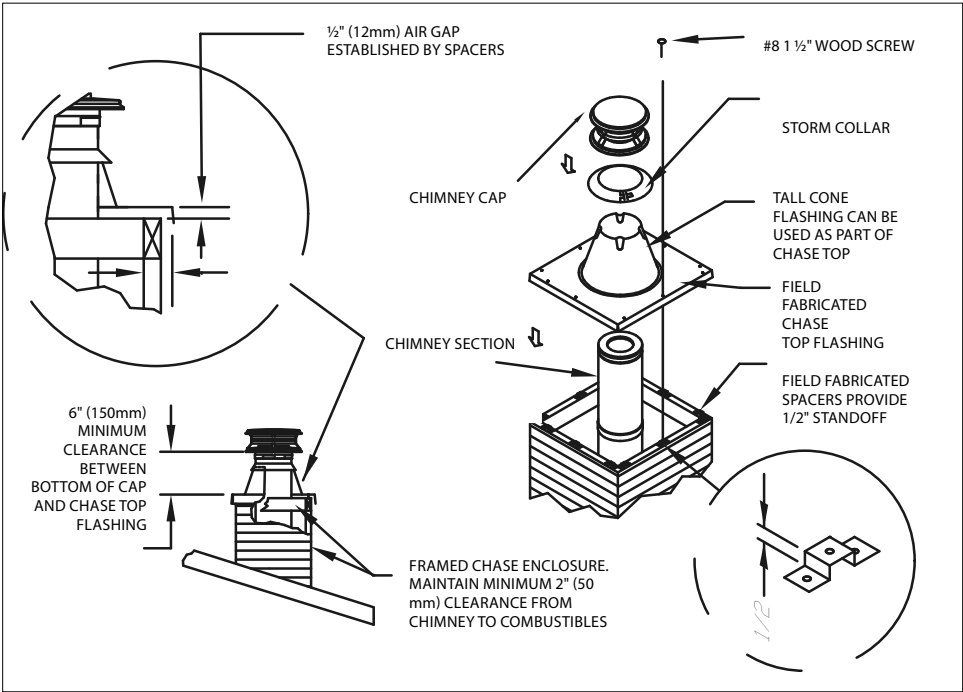

Figure 27
9. Flashing: It is recommended that a Tee Supported Chimney be enclosed in a chase. If a chase enclosure has been constructed, you can either use a standard flat-roof flashing, or use a field-fabricated flat chase top flashing. **Important:** The chase must be ventilated. If you use a field-fabricated chase top flashing, you must use spacers to provide ventilation at the top of the chase (**Fig 27**). Use spacers to allow the proper air-gap clearances between the chase top flashing and the chase. **Figure 27** displays in some detail, how these air gaps are established using the spacers for the chase top flashing. Secure the flashing to the chase using a sufficient number of #8, 1-1/2" wood screws, being careful to insure the air gap is maintained between the flashing and the chase. Seal the screw heads with non-hardening sealant. Install the Storm Collar down onto the flashing and seal with non-hardening high temperature sealant.